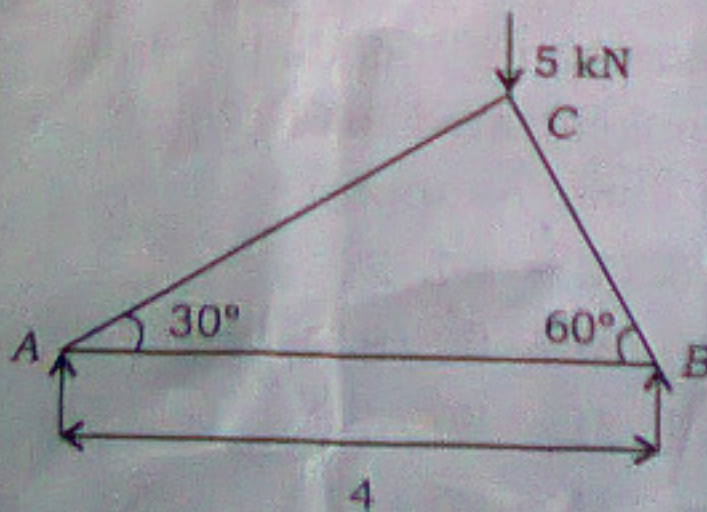

Fig. 2
- (j) Find the member force in  $BC$  as shown in Fig. 2.